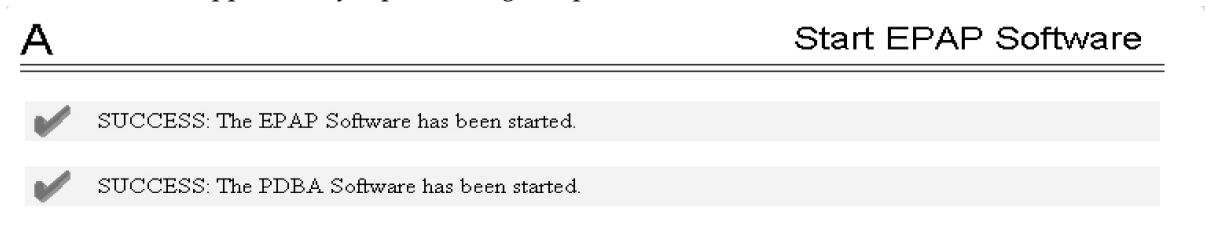

Figure 57: Start Software Completion Screen
8. Click the **Start EPAP Software** button to start the software. The screen shown in Figure 57: Start Software Completion Screen confirms that the software has started (the PDBA item appears only if performing this procedure on Side A):